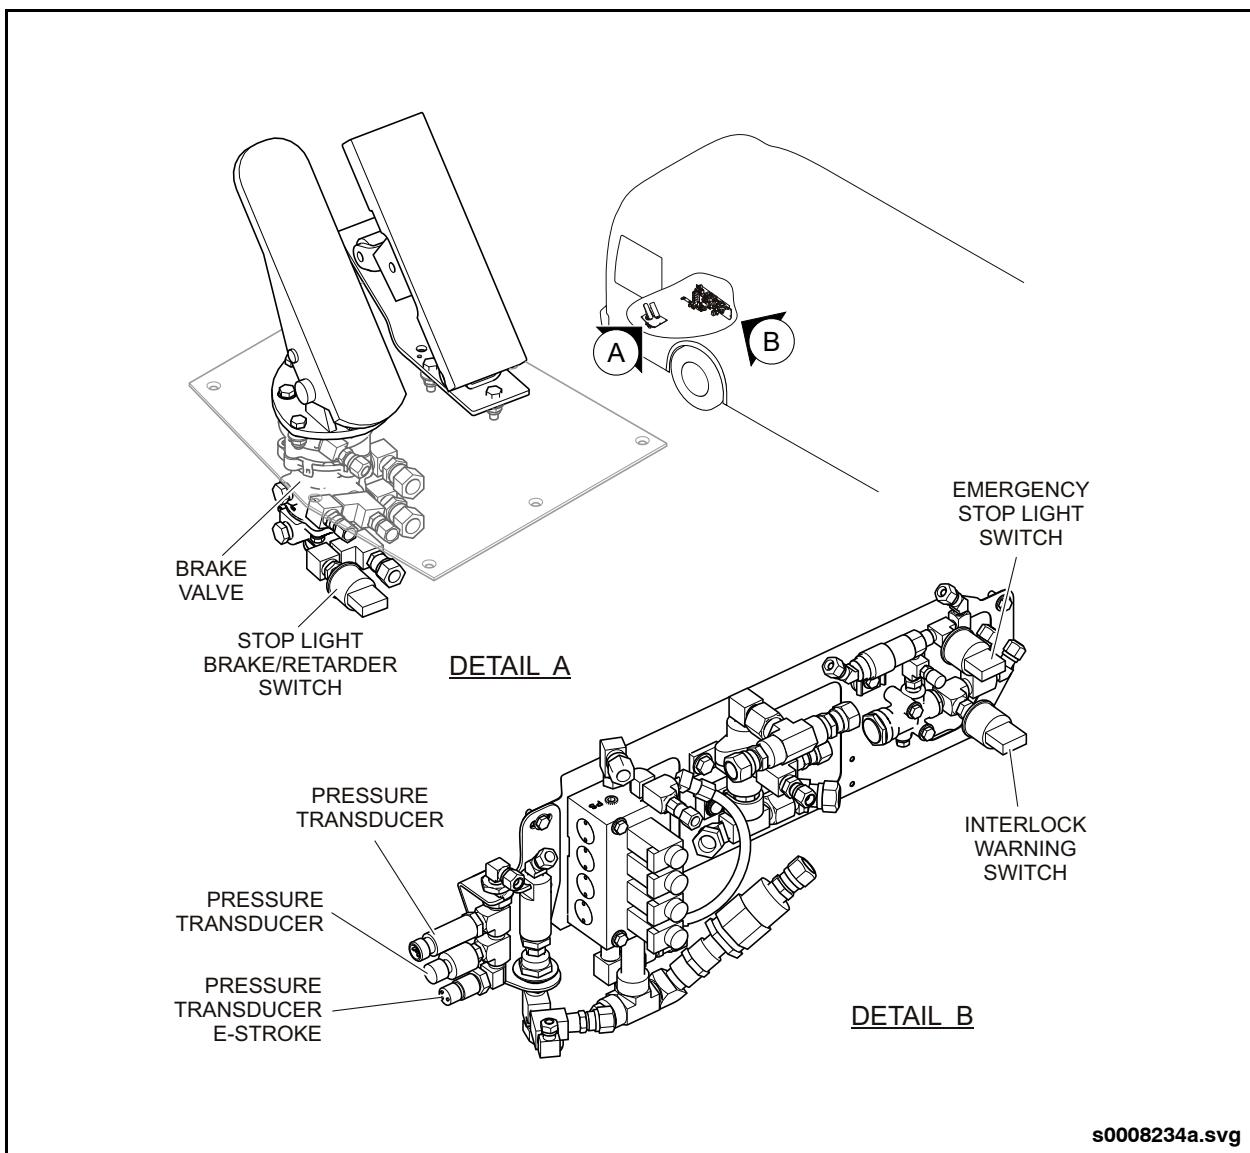

Fig. 8-22: Pressure & Stop Switches Installation
3. Open the access door below the driver's side window and locate the pressure switches installation. See "Fig. 8-22: Pressure & Stop Switches Installation" on page 75.